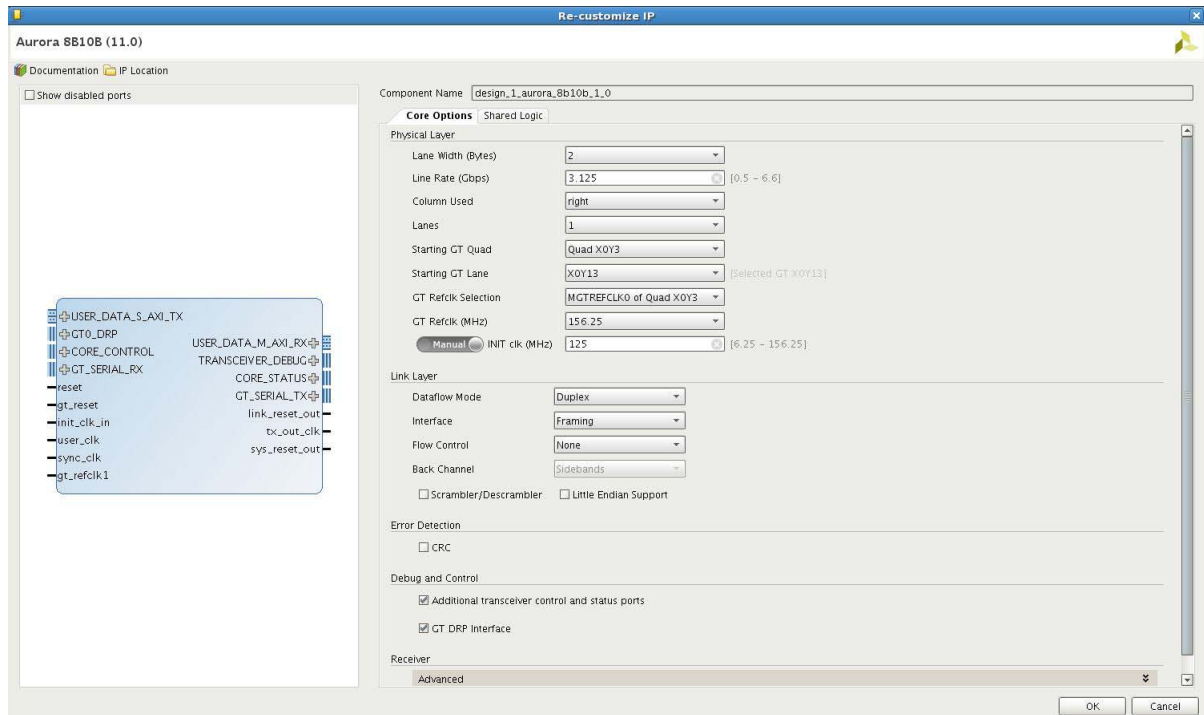

Figure 5-6: Core Options
14. Configure as shown in Figure 5-6.